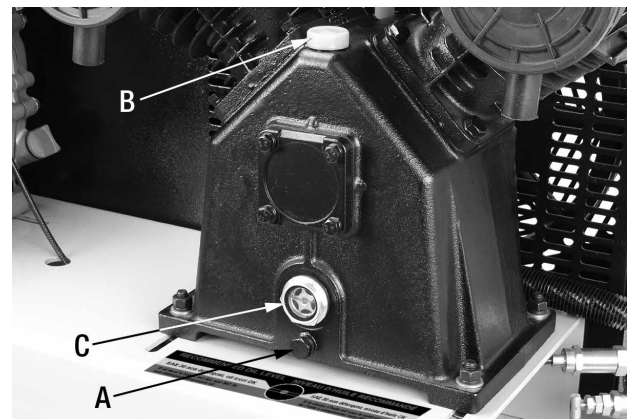

FIGURE 12
To change oil, oil must be drained from the crankcase by removing oil drain bolt (A) Fig.12. Drain oil and replace oil drain bolt. To fill the crankcase with oil, first unscrew and remove oil fill cap (B), pour air compressor oil (approx. 900ml of SAE 30 weight non-detergent oil) into oil opening until the oil level reaches the red dot at the centre of the oil sight glass (C). Reinstall the fill cap (B).